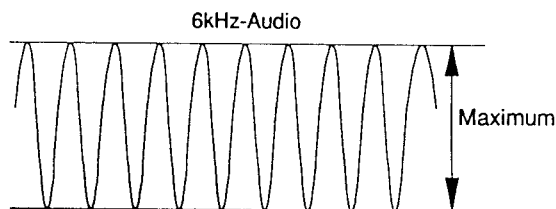

Fig. M6
2. After confirming on the oscilloscope that a 6kHz audio signal is being output by playing back F6-N test tape, adjust the azimuth adjustment screw [B] so that the AC voltmeter's reading or oscilloscope waveform is brought to its maximum level. (Refer to Fig. M6)